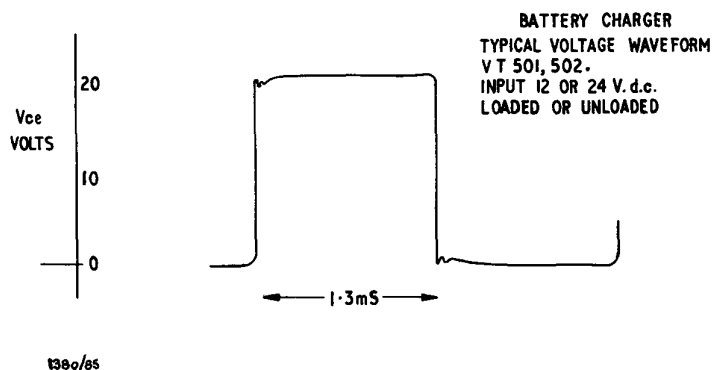

Fig 16 - Battery charger waveform
87. Typical voltage and current readings taken with the multimeter are given in Table 8. Fig 16 details the waveform obtained on an oscilloscope (CT436) during correct operation of the equipment.